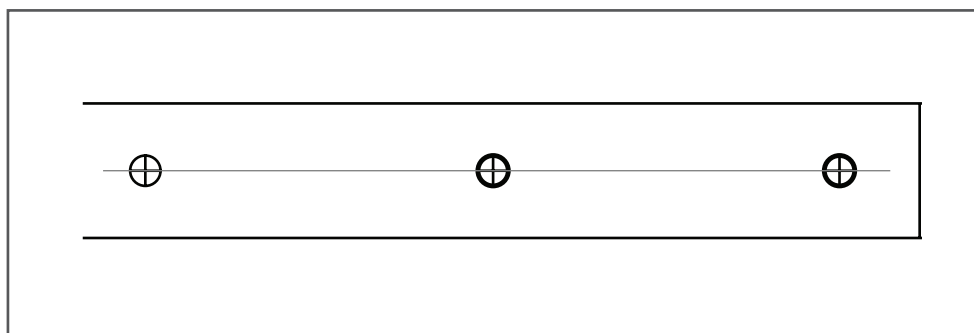

Figure 2
4. Mark an intersecting line in the center of each track hole (Figure 2).